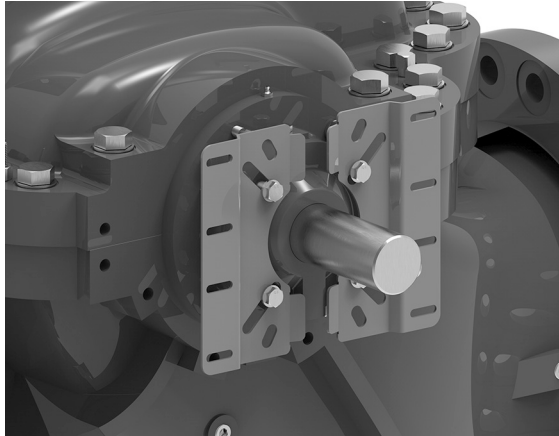

Figure 62: Large bracket mounted to pump bearing gland (without guard assembly)
1. If the two mounting brackets [5] are not already mounted on the inboard bearing gland (see Figure 62 on page 62), attach them as follows: